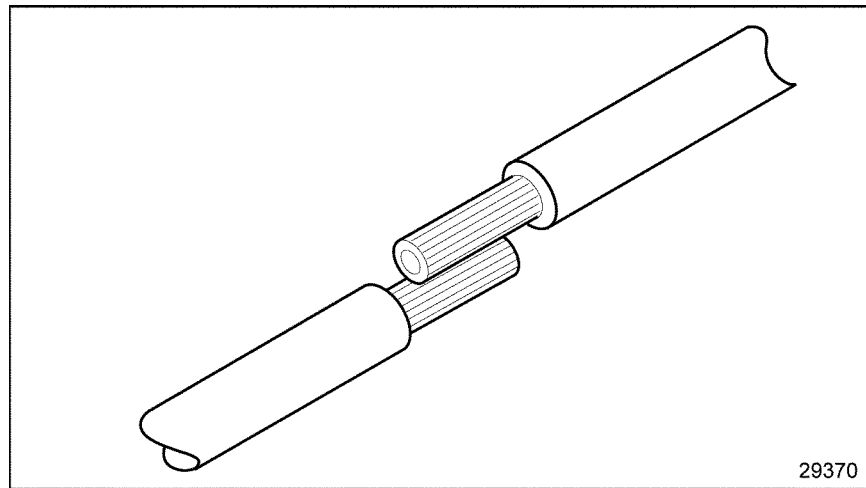

Figure 17-14 Positioning the Leads
1. Position the leads, so one overlaps the other. See Figure 17-14.